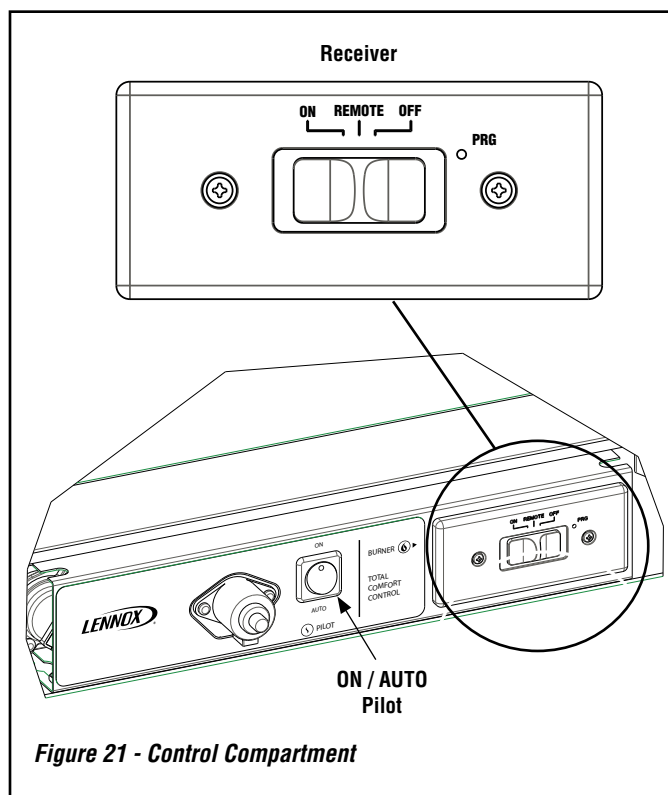

Figure 21 - Control Compartment
Place the 3 position slider switch in the "Remote" position (see *Figure 21*). Using the end of a paper clip, or other similar object, insert the end of the paper clip into the hole marked "PRG" on the Receiver front cover. The Receiver will "beep" three (3) times to indicate that it is ready to synchronize with the Remote (transmitter).
Note: The blower can be controlled only by the remote. Turning the appliance off with the unit mounted three position slider switch (**Figure 21**) will NOT turn off the blower. To turn off the blower, use the remote in lieu of or prior to shutting the appliance off at the three position slider switch (**Figure 21**).